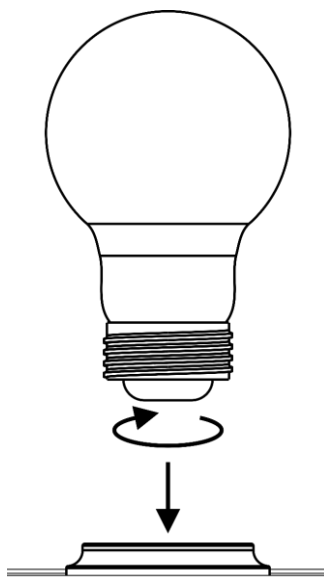

Fig. 05
To install the LED bulb, insert it into the **E27 socket (01)** and turn it clockwise until it fits into place (Fig. 05).